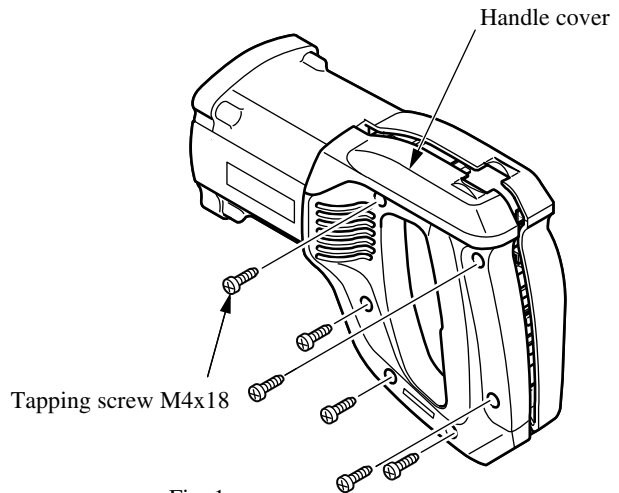

Fig. 1
- 1) Remove Tapping screw 4x18 (6 pcs) , Handle cover, and Carbon brush. (See Fig. 1)